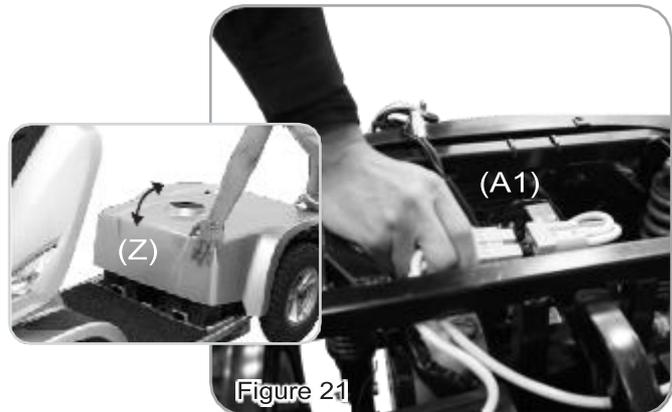

Figure 21
2. Unplug one battery connector (A1) (Figure 21).